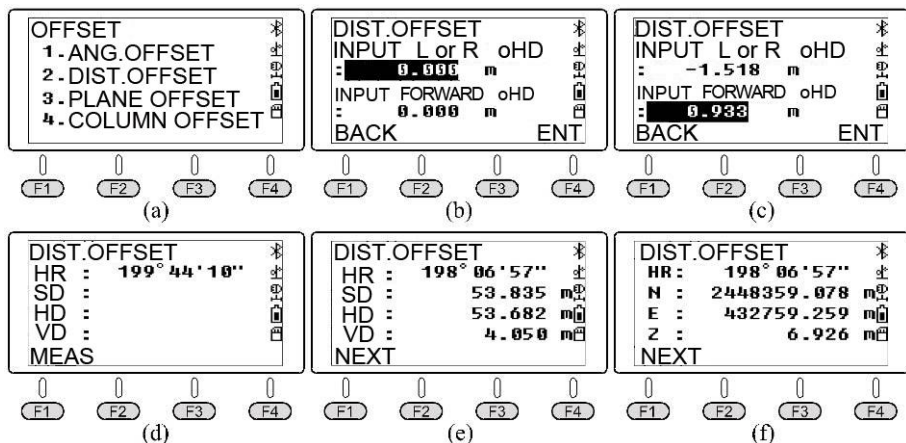

Figure 2-28 Operation steps to measure the coordinates of the points inconvenient to set prism through command "Distance Offset"
In the menu of Offset Measurement [Figure 2-28(a)], press ② (Distance Offset) to input the front and behind, left, and right setover, like what shown in Figure 2-28(c). Press F4 (OK) to enter the interface as shown in Figure 2-28(d). Aim at the prism center of point P' and press F1 (Measure). The case data is shown in Figure 2-28(e). Press CORD is to switch the screen to display the coordinates of the target point P [Figure 2-28(f)]. Press DIST is to switch the screen to display the distance of the target point P [Figure 2-28(e)]. Press F1 (Next) to continue the Distance Offset of the next point. Press ESC to exit Distance Offset function.